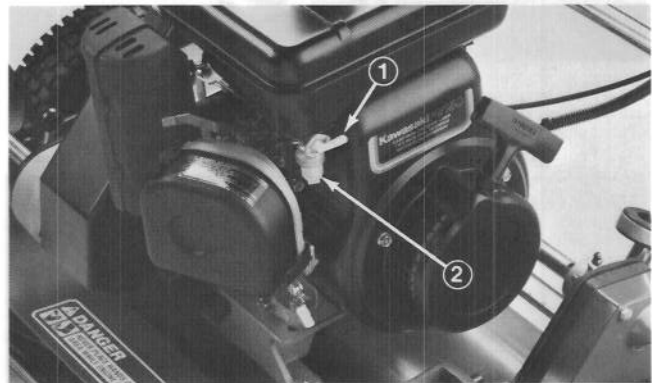

Figure 34
- 1. Close fuel shut off valve and unscrew bowl from filter body (Fig. 34).